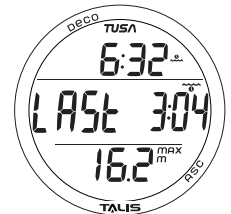

Fig. 87 - FREE SURF ALT 1
**FREE Surface ALT 1**, information includes (Fig. 87):